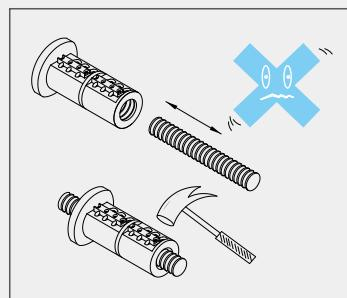

Fig 4.3 Carefully protect the nut
- (3) To achieve the ballscrews' maximum life, recommend the use of antifriction bearing oils. Oil with graphite and MoS2 additives must not be used. The oil should be maintained over the balls and the balltracks.
- (4) Oil mist bath or drip feeds are acceptable. However, direct application to the ball nut is recommended (Fig. 4.3).